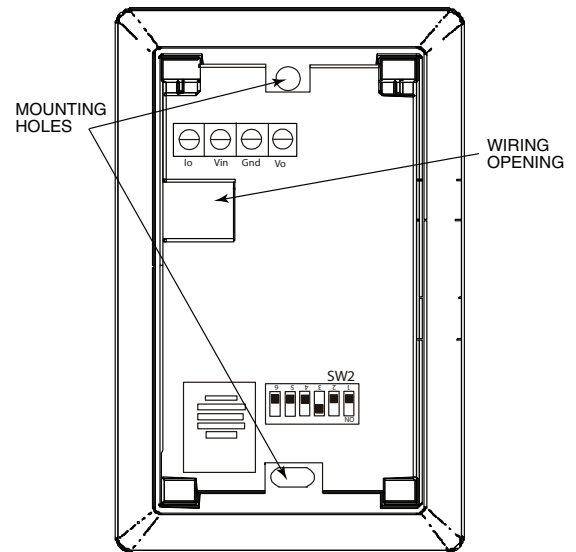

Fig. 74 — Space Relative Humidity Sensor Installation
If the sensor is installed directly on a wall service, install the humidity sensor using 2 screws and 2 hollow wall anchors (field supplied). Do not over tighten screws. See Fig. 74.
1. At the sensor, remove 4 inches of the jacket from the cable. Strip 1/4 inch of insulation from each conductor. Route the cable through the wire clearance opening in the center of the sensor. See Fig. 74.